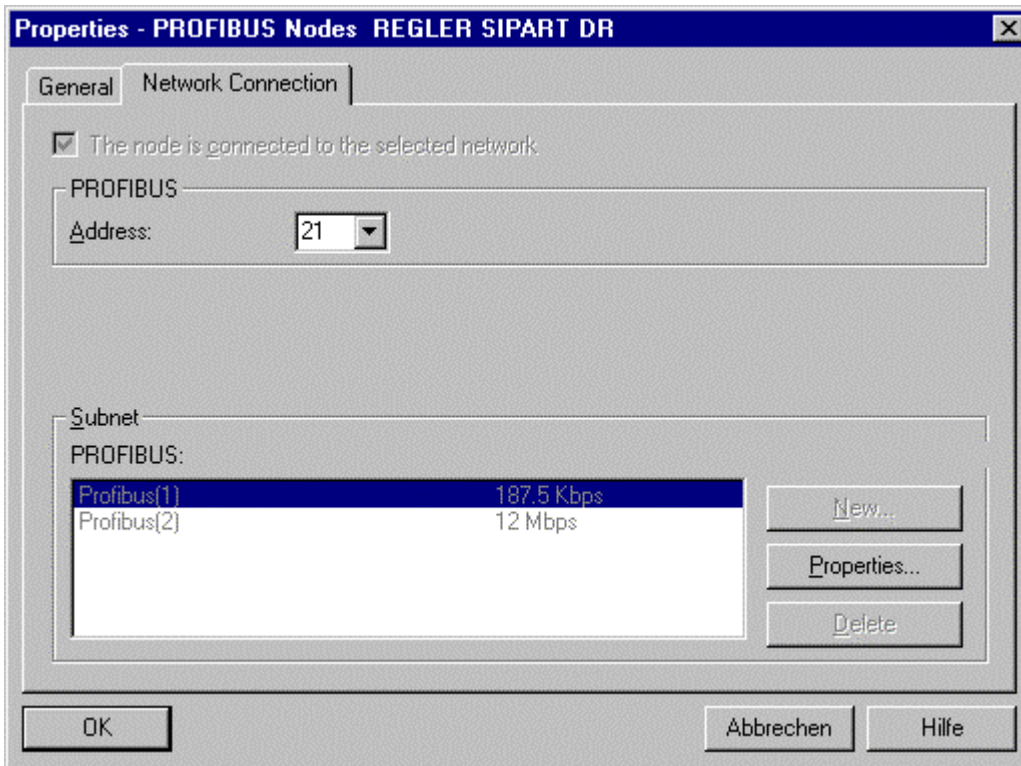

Figure 3
- Set the SIPART DR 19 to user address 21 (Figure 3).